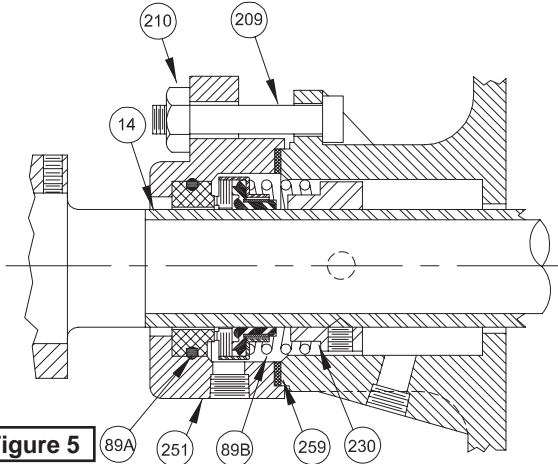

Figure 5
- k. Apply light oil to the outer surface at the stationary seal seat and o-ring (89A) and press seal seat into the seal gland (251).
- l. Apply light oil to the inside of the seal bellows and to the shaft sleeve (14) then slide seal gland (251), gland gasket (259) and rotating seal assembly (89B) onto the shaft sleeve. See Figure 5.
- m. Place seal retainer (230) on the shaft sleeve to the premarked position and tighten set screw.
- n. Place packing box cover (11) against frame (19), in proper position, and attach seal gland (251) to packing box cover with bolts and nuts (209) and (210), tighten securely.